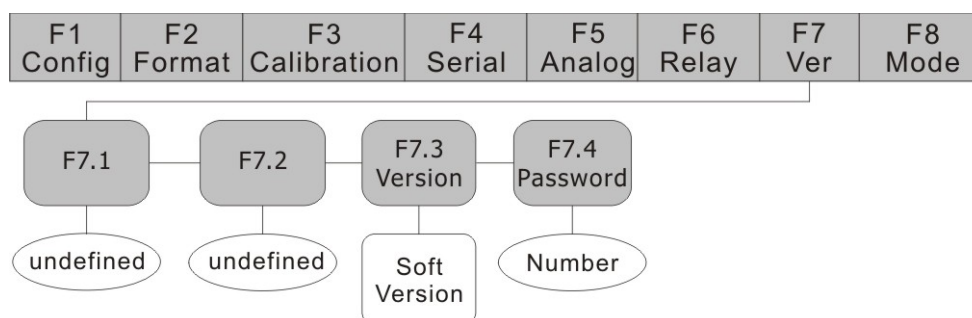

Fig.8-1 F7 (Ver) Menu
- (1) Set indicator to the Configuration mode (display shows “F 1”)
- (2) Press **【TARE】** until display shows “F 7” (see Fig. 8-1). Press **【ZERO】** to go to F7
- (2) Press **【TARE】** until display shows “F 7” (see Fig. 8-1). Press **【ZERO】** to go to F7 Menu. Display shows “F 7.1”. Press **【TARE】** three times until display shows “F 7.4”.